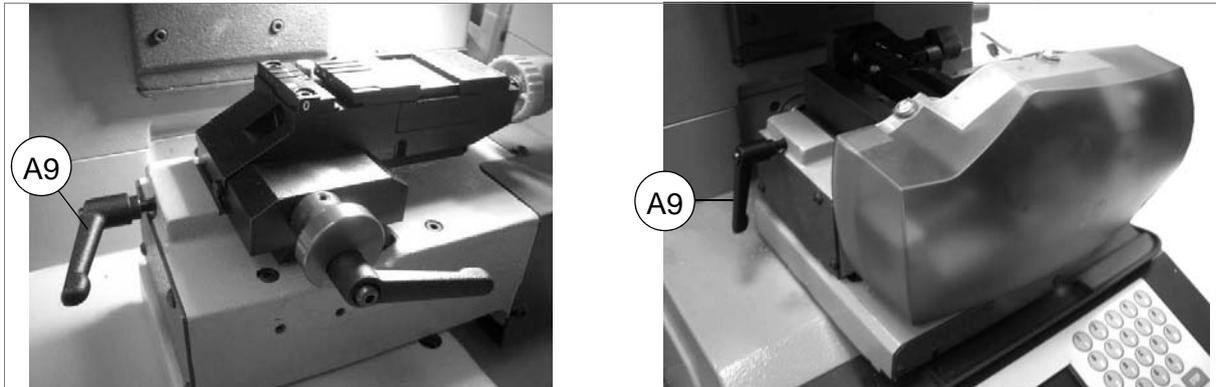

Fig. 3
- loosen the handle (A9) (fig. 3) and pull the clamp out of the dovetail guide.